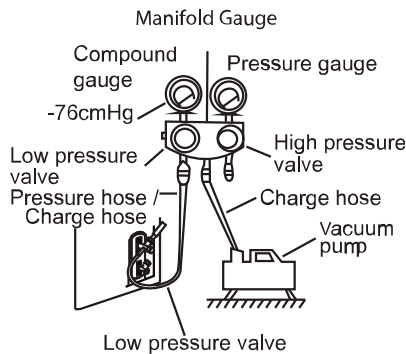

Fig. 38 — Manifold
3. Fully open the low side of manifold gage (see Fig. 38).